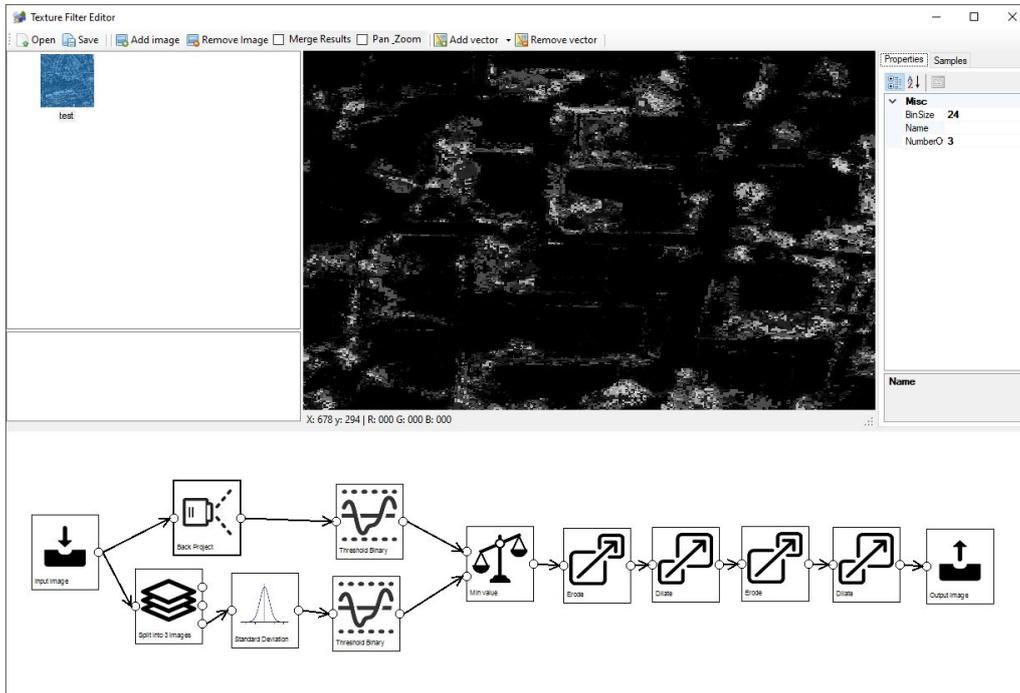

Figure 6.16: Determining which parts are similar to the sample images using the back project step
2. Determine how similar the pixel is to the sample images using the back project step. A bin size of 24 is used and 3 bands are used for the detection. See Figure 6.16.